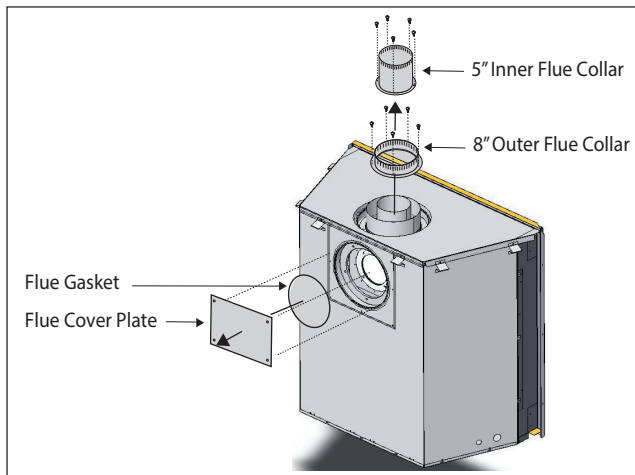

Figure 9. Flue cover and collar removal, Top Vented fireplace.
1. Remove the Rear flue cover and gasket (5" and 8") on the flue outlet, as shown in Figure 9.
2. Next, Remove the Top flue collar's (5" and 8") on the flue outlet, as shown in Figure 9.